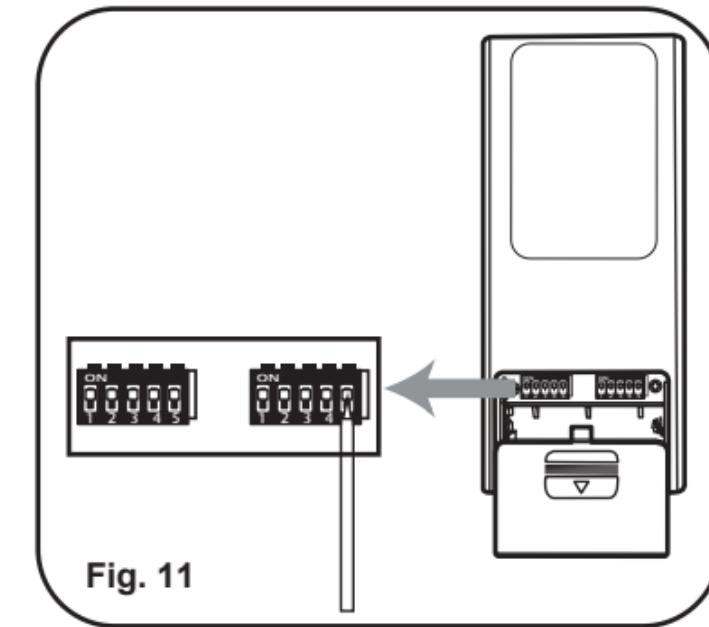

Fig. 11
**NOTE:** The Aire Control® System is equipped with a learning frequency function which has 1024 code combinations to prevent potential interference from other remote units. The frequency on your Receiver and Transmitter units have been preset at the factory.(Fig. 11) No frequency change is necessary, should you desire to install another fan with in the same home or area with a separate frequency code please see the "frequency interference" troubleshooting section of this instruction manual to learn how to change the frequency.